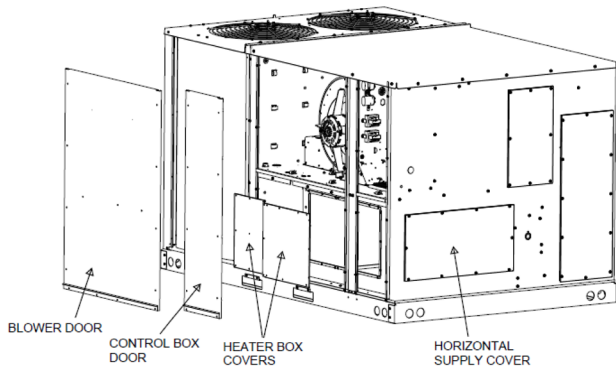

Figure 1
4. Locate heater box. Remove screws holding the heater box cover in place (Figure 1).